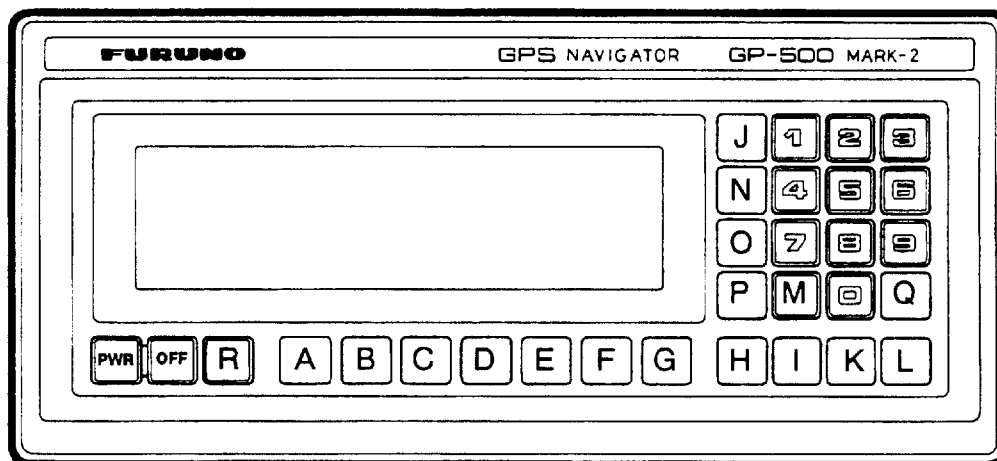

Figure 7-5a GP-500 MARK-2, showing key and associated indication in the keyboard test
- 2) Press each key one by one, except **PWR** and **OFF** keys. The associated indication fills the display if the key is functioning properly. Figure 7-5a shows key and associated indication.